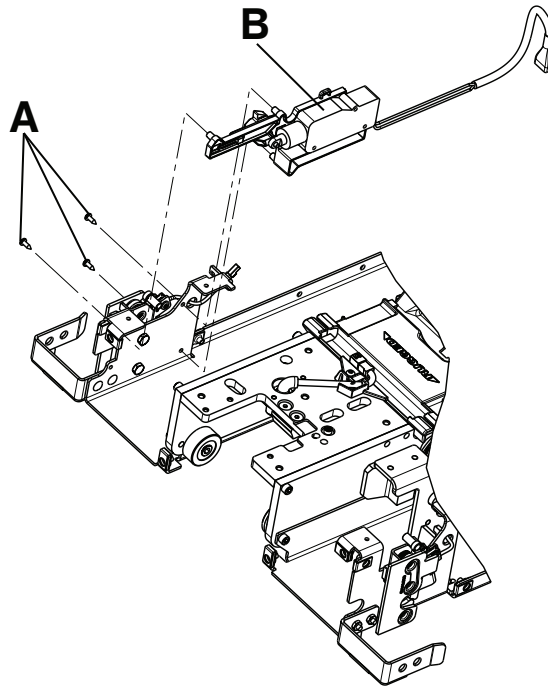

Figure 17 – Trolley actuator assembly
- Using a T20 Torx driver, remove the three delta screws (A) that secure the trolley actuator (B) to the trolley frame (Figure 17). Save the screws.